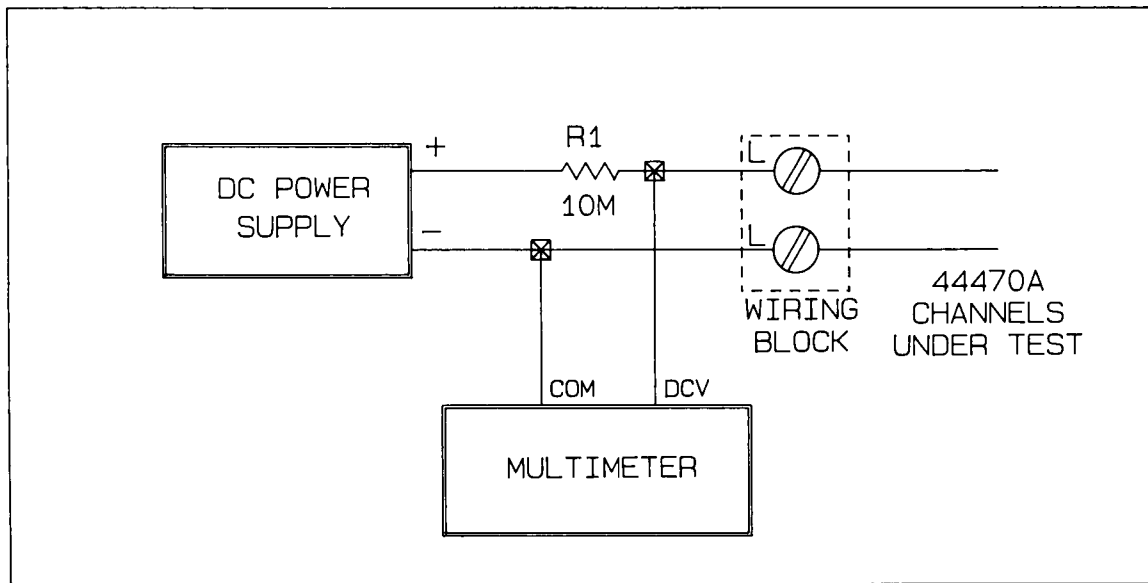

Figure 11-10 Open Contact DC Isolation Test
24. Connect the low lines of the channels under test (row 0 and row 1 to start) into the test circuit as shown in Figure 11-10.